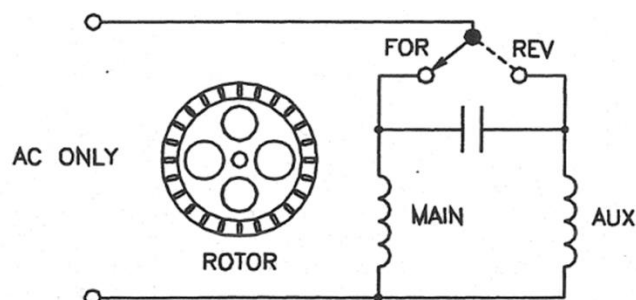

Figure 14 - Arrangement for reversing a permanent capacitor motor.
40. The direction rotation of a permanent capacitor motor can be reversed by reversing the connections to either the run or the auxiliary winding, but not both. Another method of reversing a permanent capacitor motor to change the phase angle in one winding relative to the other by connecting a permanent capacitor as shown in Figure 14. This method is commonly used in motors associated with the regulation of air flow in air conditioning systems.